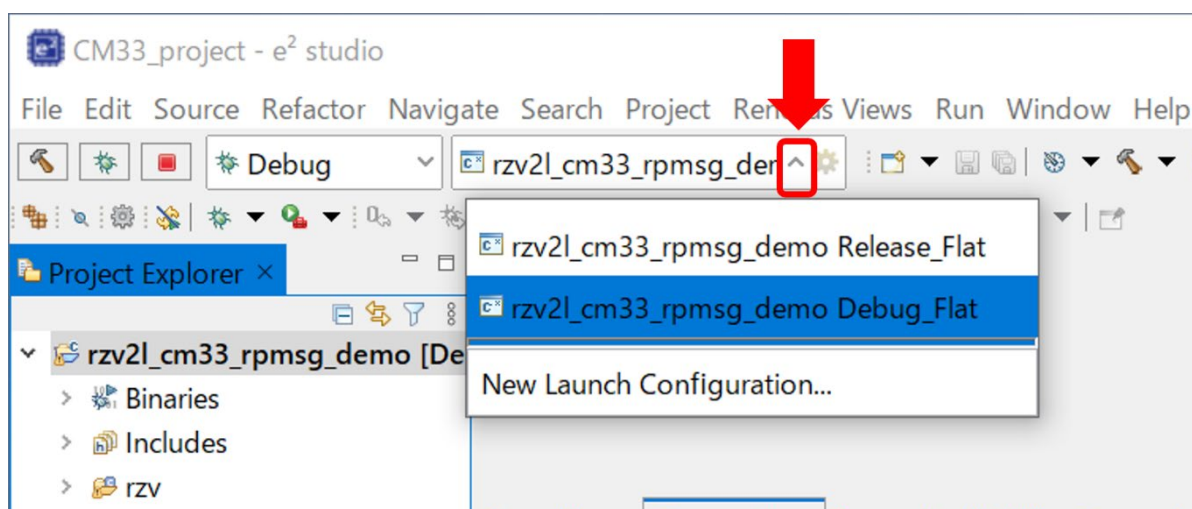

Figure 4-4. Select of Debug Configuration
1. Choose `rzv2l_cm33_rpmsg_demo Debug_Flat` or `rzv2l_cm33_rpmsg_demo Release_Flat` from the drop-down list indicated by a red arrow in Figure 4-4.